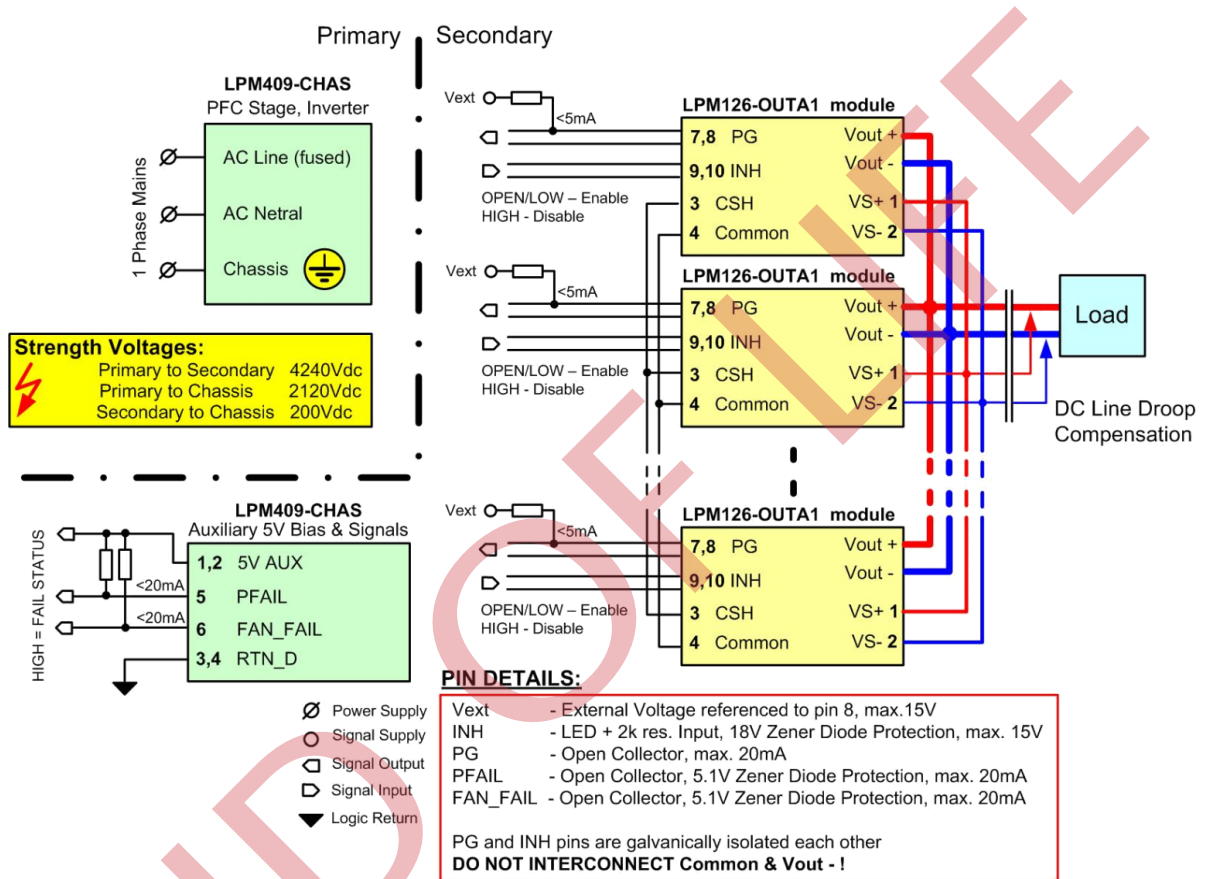

Figure 15. LPM409 – Paralleling Connection Diagram for LPM126 Modules
- ³ The interconnection is shown in *Figure 15* (especially all pins 3 - CSH and all pins 4 - Common must be reconnected). Modules K-N cannot be connected in parallel.